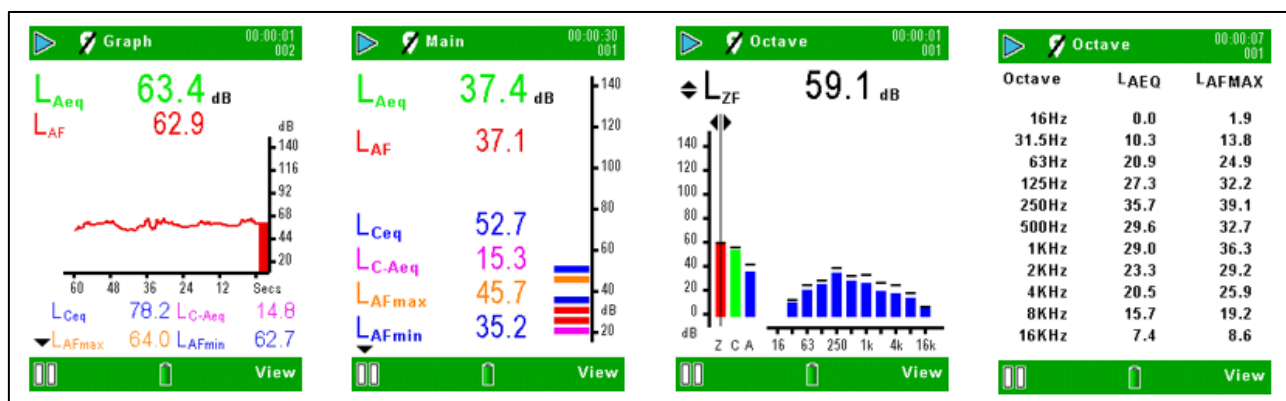

Figure 10 620B Run Screens
**For the 620B models** (refer to Figure 10), there are two additional octave screens. Press the corresponding **View** soft key to toggle between the four available screens. Use the **▶**, **◀** navigation key to move across the frequency bands when in Octave graphical view and the **▲** or **▼** navigation key to toggle between instantaneous, LAF maximum, LMAX and LAEQ parameters. Each graph bar represents an octave band measured in Hz or kHz. To view a table of the octave values, press **View** again.